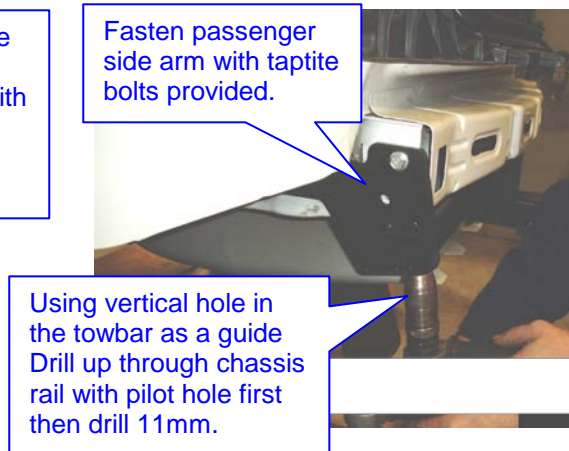

Fig 12
- Fasten passenger side horizontal mounts with taptite bolts provided see fig 12.
- Drill up through vertical mount on passenger side see fig 12.